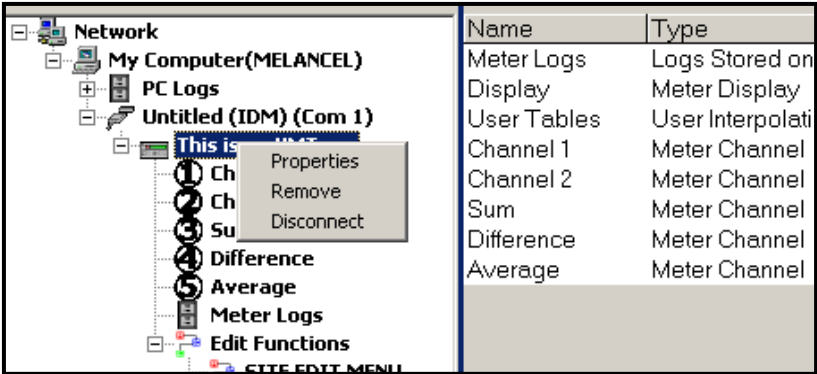

Figure 5: Properties Option in the New Meter Browser
- 2. Right-click on the highlighted XMT868i and click on the *Properties* option, as shown in Figure 5.